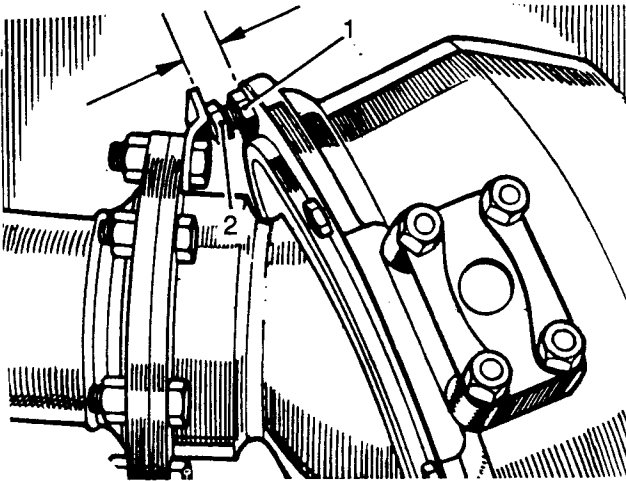

Fig L3.2
(1) Refer to Fig L3.2. Slacken the locknuts (1).
(2) Adjust the stop bolts (2) to obtain 12,5 mm between the bolt head top face and the oil seal retainer face.
(3) Tighten the locknuts (1).
(4) Check the steering at full lock and ensure clearance between the tyres and chassis components.